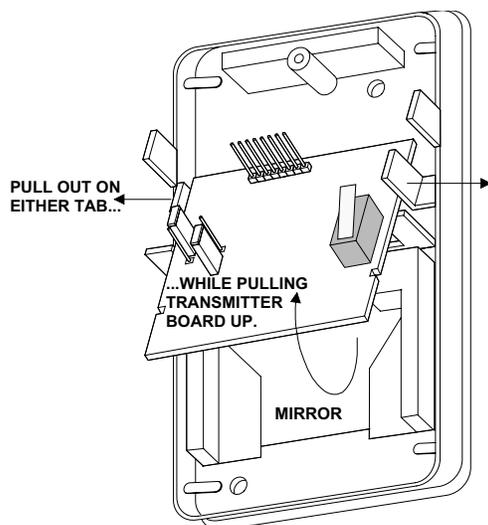

Figure 12. Removing the PIR Circuit Board
- Carefully remove the PIR (lower) circuit board by pressing outward on either side tab, then pull up on the circuit board (see Figure 12).